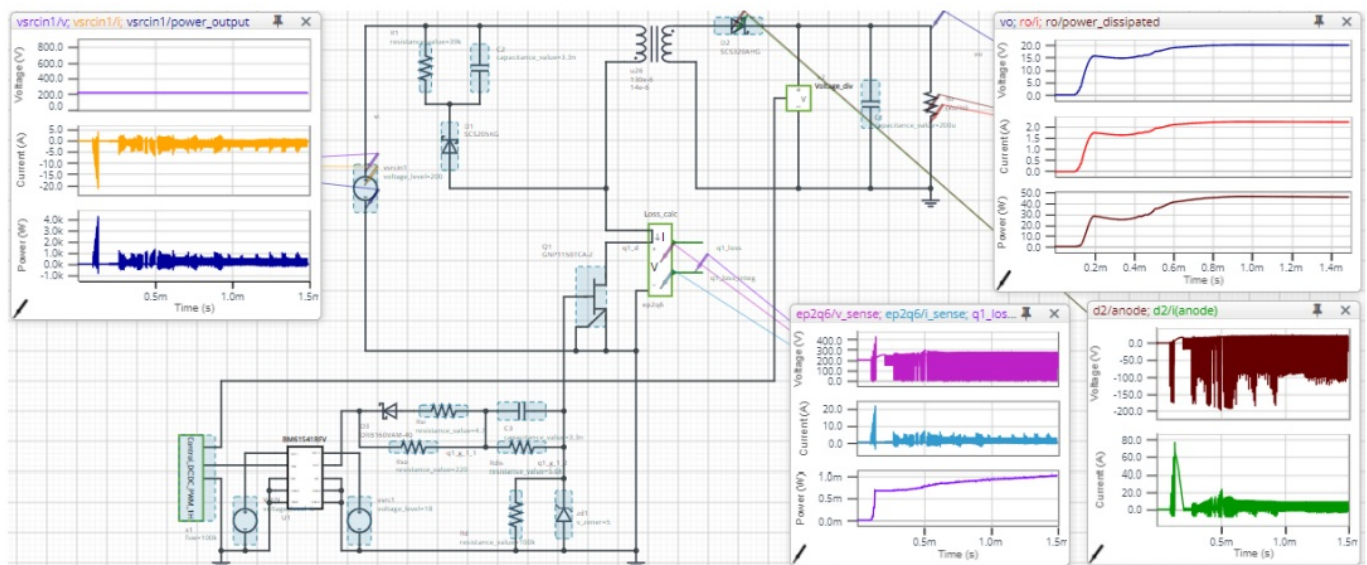

Figure 1. Simulation Schematic
- Refer to Figure 1 for the simulation schematic.